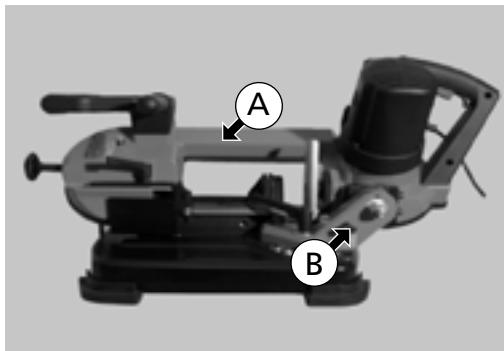

Fig. 2
For shipping purposes, the cutting head (A) has been secured to the down position by means of a fastening bolt (B) - (Fig. 2).